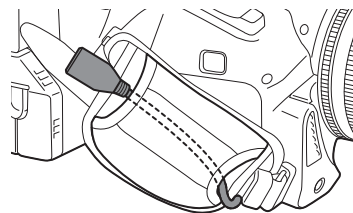

Fig. 5
- 4 Pass the USB 2.0 extension cable through the grip belt compartment. (Fig. 5)